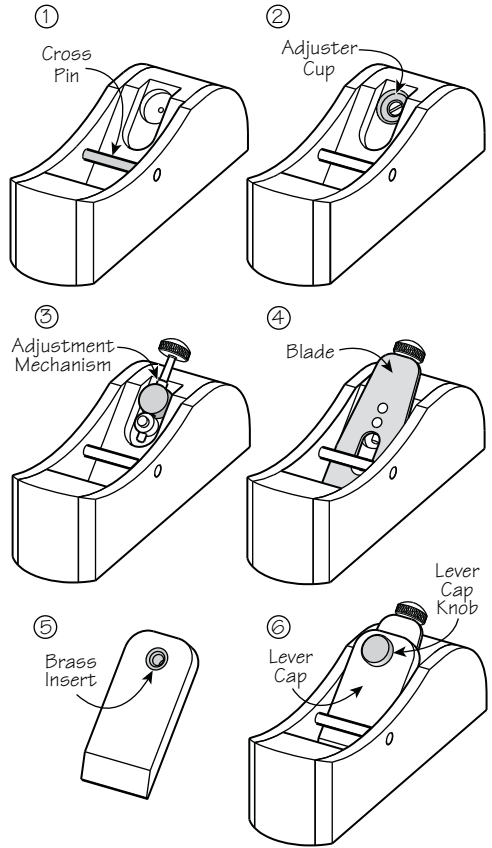

Figure 17: Assembling the plane.
2. Install the adjuster cup with the #10 × 3/4" wood screw in the hole in the blade bed. (See **Figure 17**.)